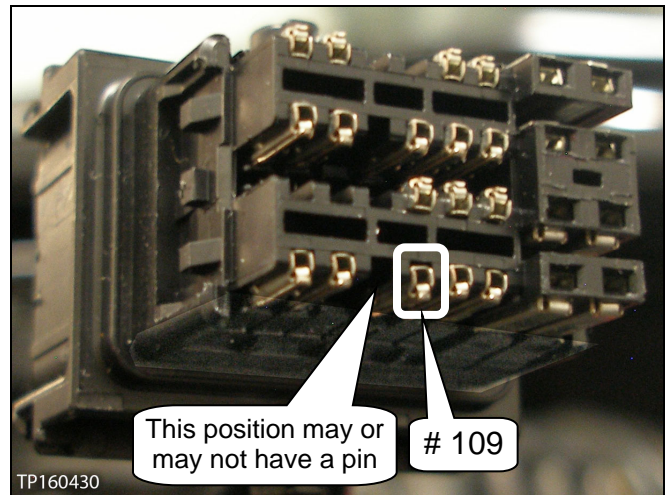

Figure 21
19. Install the new terminal into pin position # 109 in connector E16 (Figure 21).